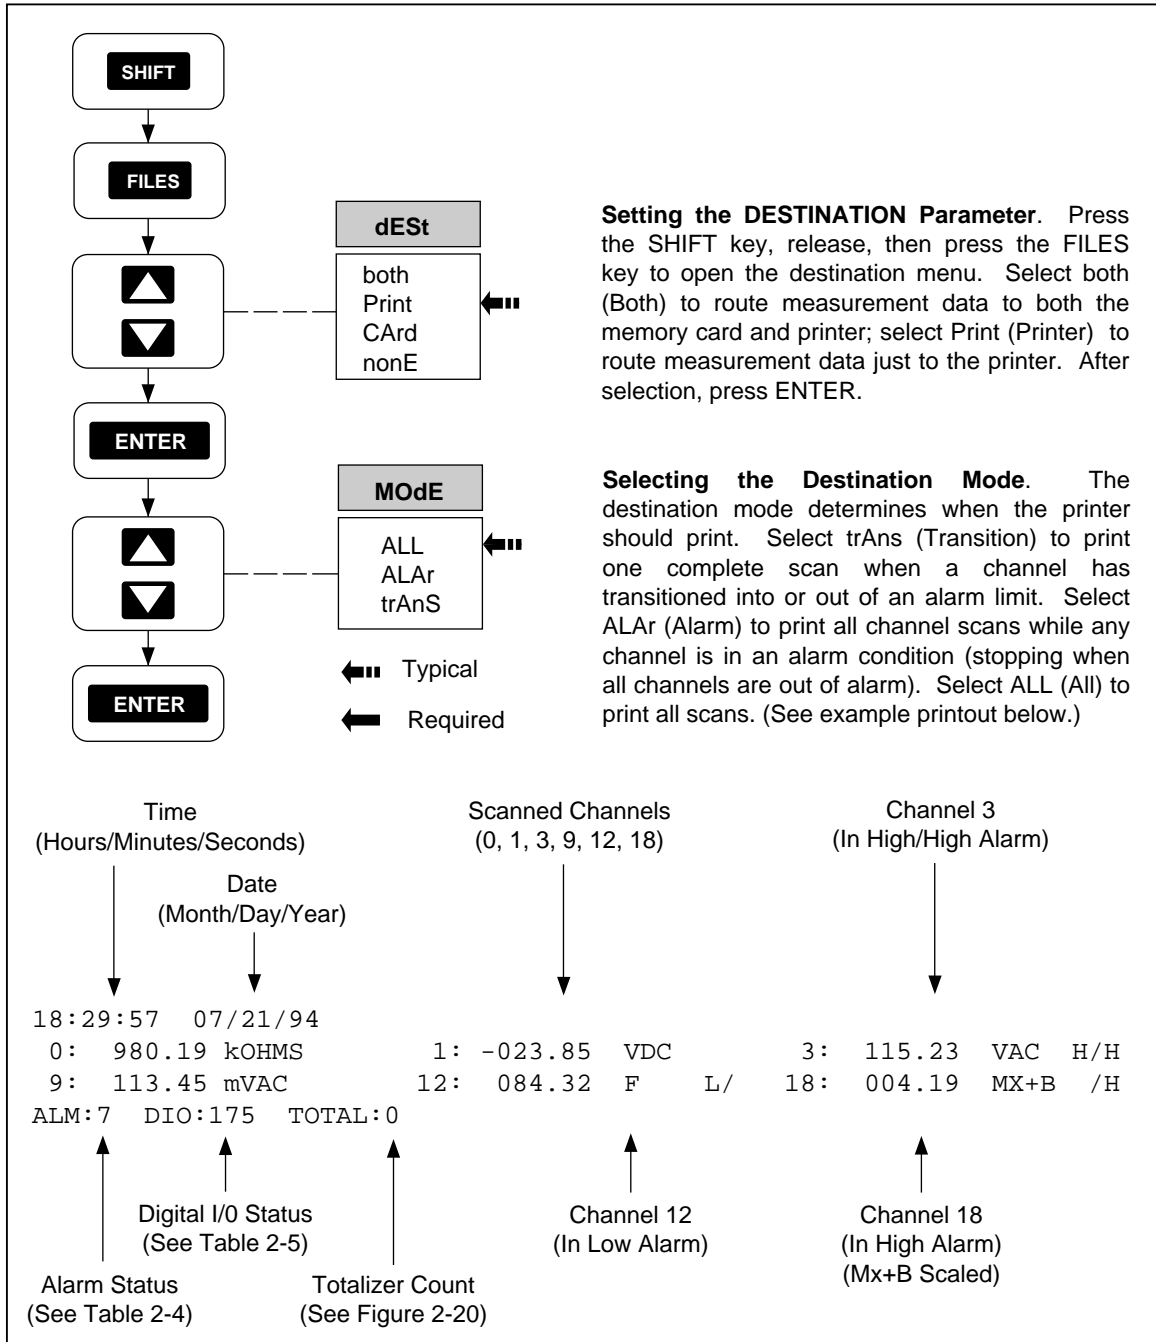

Figure 5-3. Printing Measurement Results During Scanning
Correct operation of the instrument RS-232 link with a printer depends on the link parameters baud rate, parity, and CTS (Clear To Send). Perform the procedure in Figure 5-3 to establish communication link parameters. Refer to your printer manual for information on selecting identical parameters for the printer, usually through the setting of DIP (dual in-line package) switches (with the printer unpowered). The instrument uses a fixed one start bit and one stop bit.
- Printing Measurement Results During Scanning (Figure 5-3)
Perform the procedure in Figure 5-3 to print measurement results during scanning. The destination for the scanned data can be the printer, memory card, both the printer and the memory card, or no destination, where the data is saved only in the Review array. The mode for the printing to the printer or memory card can be all scanned data, scanned data only when any scanned channel is in alarm, or scanned data only when an alarm transitions from one alarm stat to another.